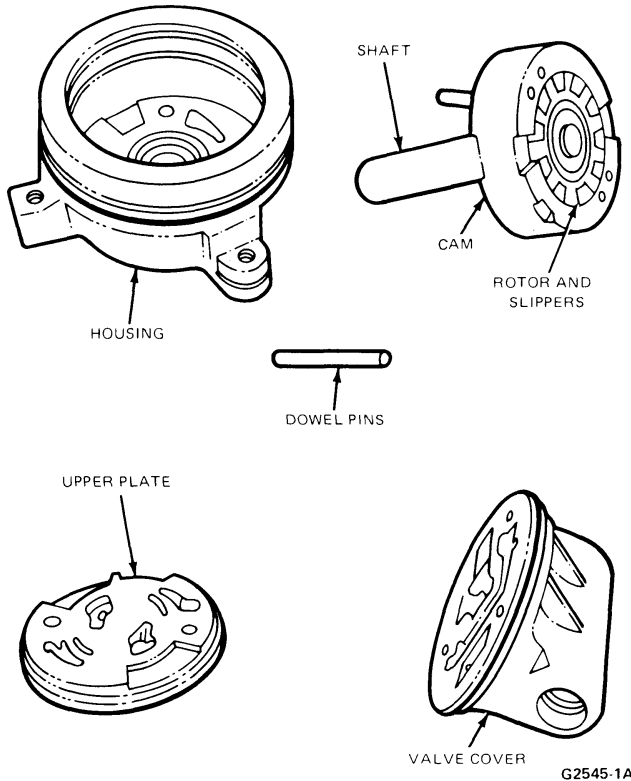

FIG. 14 Pump Housing Components
11. Push on the rotor shaft, and remove the rotor shaft, upper plate, rotor and slippers, cam insert and (2) dowel pins (Fig. 14).